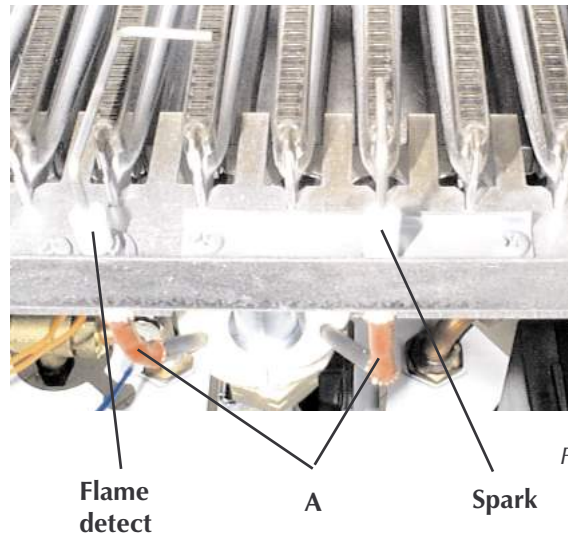

Fig. 34
7.12 Spark or flame detect electrode (fig. 34)
- Identify electrode from fig. 34